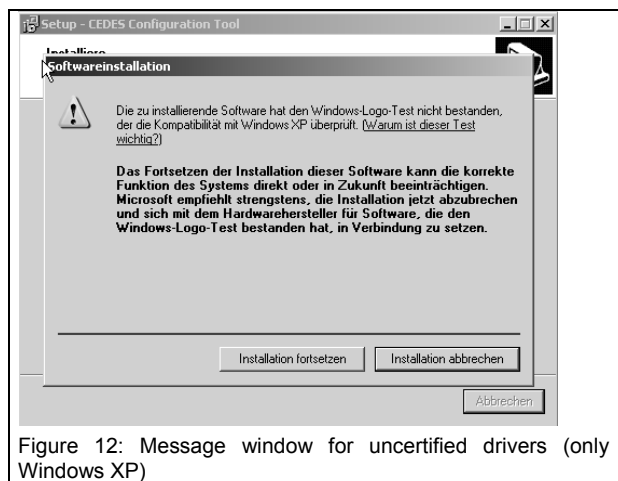

Figure 12: Message window for uncertified drivers (only Windows XP)
**Only for Windows XP:** If the message warning for uncertified driver (not-WHQL certified) is configured, message in Figure 12 appears. Press 'Next'